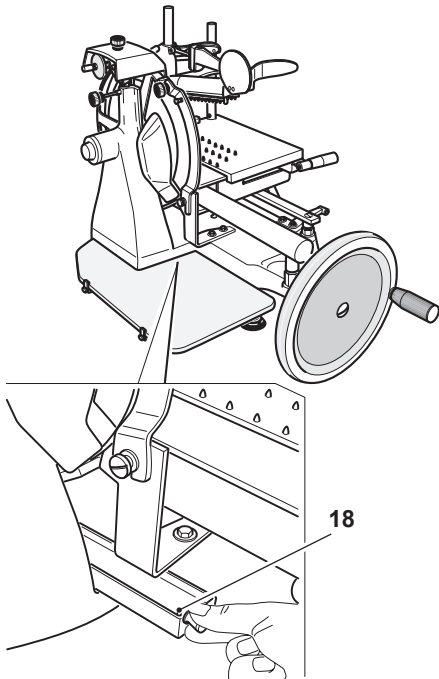

Figure 14-1
1. Remove the grease collection pan (18) (Figure 14-1).